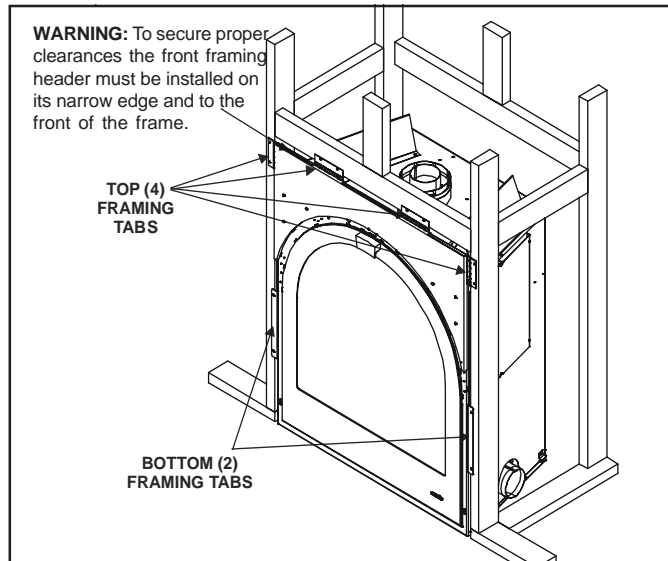

Figure 21. Proper Positioning, Leveling, and Securing of a Fireplace
3. Fold out top four framing tabs to be flush with (2) bottom tabs as shown (Figure 21).